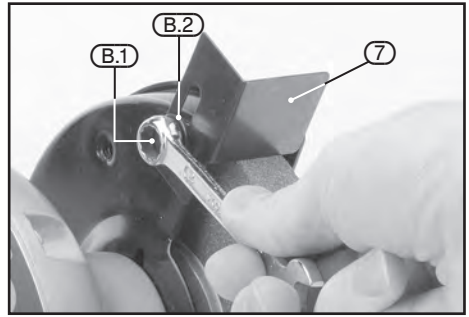

FIG.3
### 8.4 ATTACHING THE SPARK DEFLECTORS – FIG.3
- Attach the left and right hand spark deflectors using the fittings from group's (B) and (C) shown in 7.2 WHAT'S IN THE BOX section on page 12.
- Attach the spark deflectors using the two bolts (B.1) and medium size washers (B.2) as shown in Fig.3.